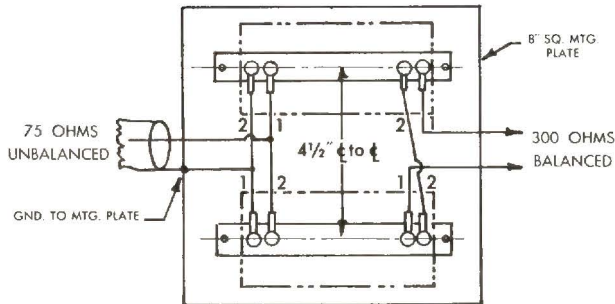

Fig. 2
2. Unbalanced 75 ohms to balanced 300 ohms as shown in Fig. 2.